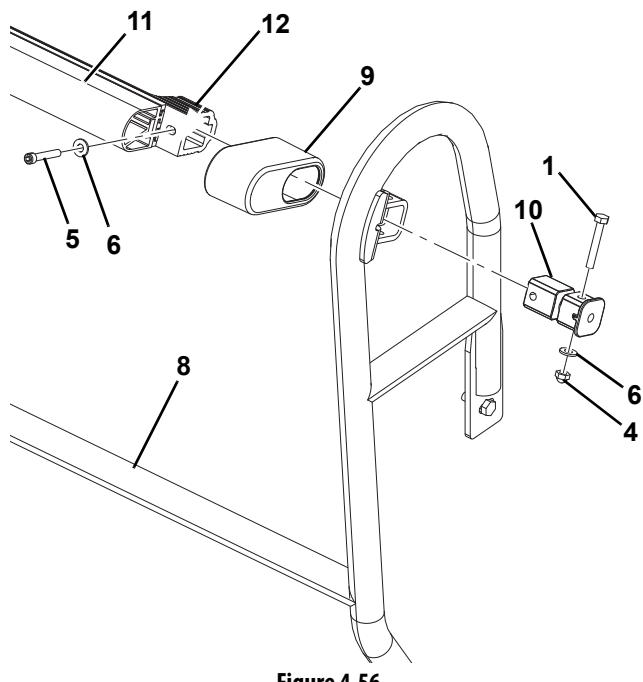

Figure 4-56.
- Insert a Shear Block Support (**10**) through shear block housing on the SkyGuard support bracket and into the platform sensor mount. See *Figure 4-56*.
- Secure the shear block on welded mount of SkyGuard support bracket using Bolt (**1**), relevant Washer (**6**) and Acorn Nut (**4**) as shown in *Figure 4-56*.
- Secure the SkyGuard switch assembly using Bolt (**5**) and relevant Washer (**6**) on platform sensor mount. See *Figure 4-56*.
WHEN THE SKYGUARD IS PUSHED WITH EXCESSIVE FORCE THE SENSOR SUPPORTS (ITEM 10 - FIGURE 4-56.) WILL BREAK. REPLACE WITH NEW SENSOR SUPPORTS BEFORE CONTINUING OPERATION OF THE MACHINE.